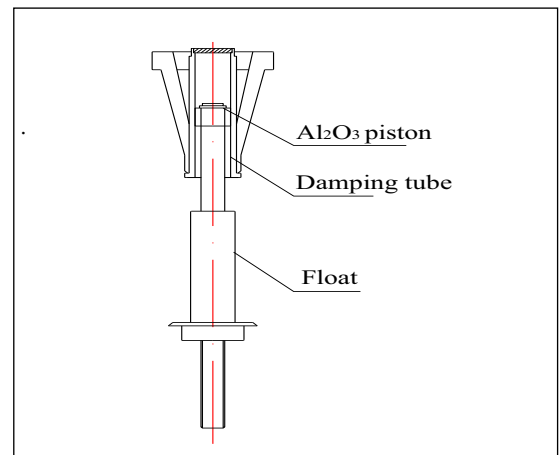

Fig.2-2
- 2.1 When the valve is opened suddenly in pipeline or pressure is unstable during metering gases, airflow will be pulsating. As a result, float moves up and down along the conical tube ceaselessly. In the meantime, system is out-of-control since pointer swinging constantly lead to output signal instability. In this conditions, damping device must be installed inside measuring tube (see fig.2-2). The damping device become a self-centering damper of preventing block through special design and precision work of numerical control machine centre. The damping device is consists of aluminum oxide ceramic (purity is 99.99%) and characterized by a long service life, resistant to corrosion, structure novelty, practicality better.